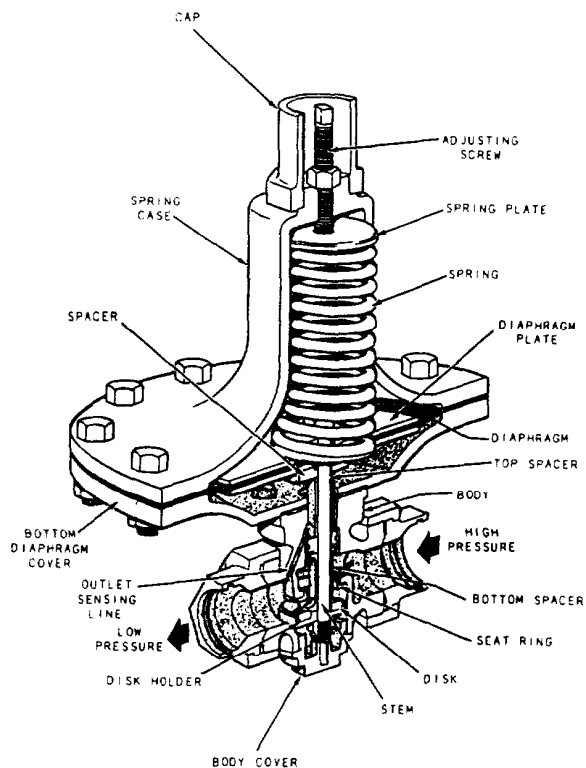

Figure 6-8.—Pressure-reducing (spring-loaded) valve.
**SPRING-LOADED REDUCING VALVES.**—Spring-loaded reducing valves, one type of which is shown in figure 6-8, are used in a wide variety of applications. Low-pressure air reducers and others are of this type. The valve simply uses spring pressure against a diaphragm to open the valve. On the bottom of the diaphragm, the outlet pressure (the pressure in the reduced pressure system) of the valve forces the disk upward to shut the valve. When the outlet pressure drops below the set point of the valve, the spring pressure overcomes the outlet pressure and forces the valve stem downward, opening the valve. As the outlet pressure increases, approaching the desired value, the pressure under the diaphragm begins to overcome spring pressure, forcing the valve stem upwards, shutting the valve. You can adjust the downstream pressure by removing the valve cap and turning the adjusting screw, which varies the spring pressure against the diaphragm. This particular